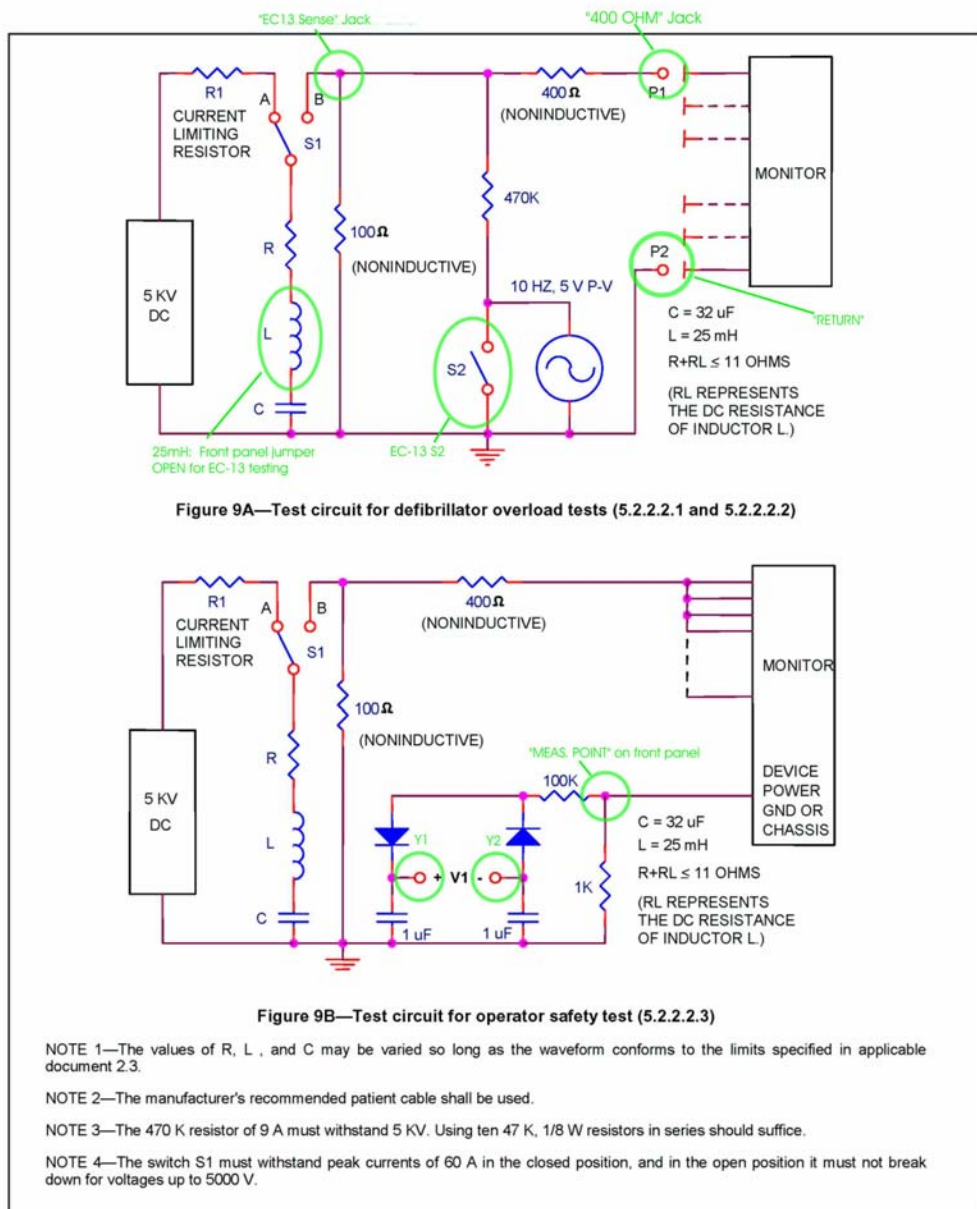

Figure 2: EC-13 Figures 6 and 6A
The connection information for the Defib-5 is shown in green text on Figure 2.
7. MEAS. POINT: This is the point which is connected to the voltage divider network to determine PASS/FAIL results of the test. See Fig. 2 for more details.